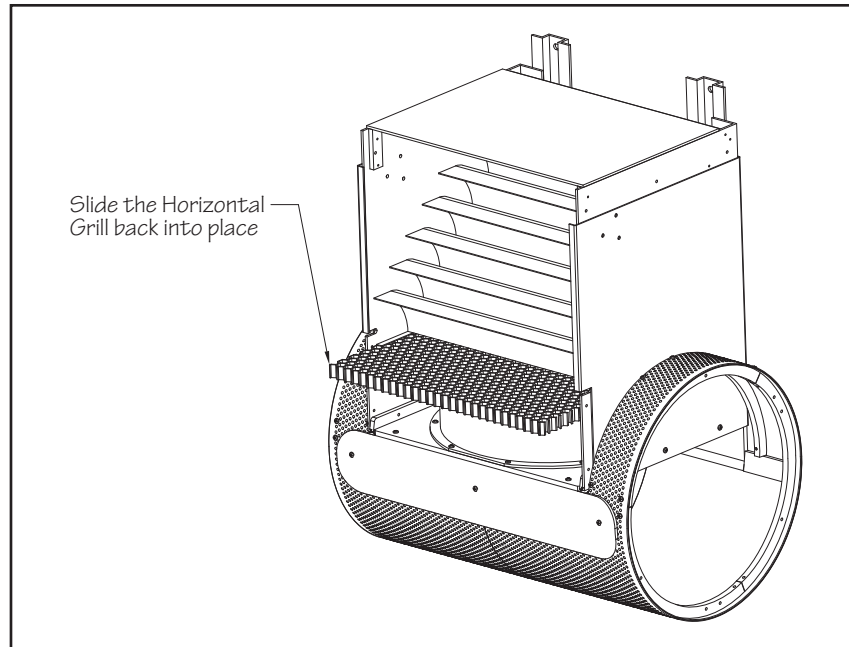

Fig. 6.7
- 6.9 Slide the horizontal water-conditioning grill back into its track inside the housing. The horizontal grill is the wider of the two grills (Fig 6.7).